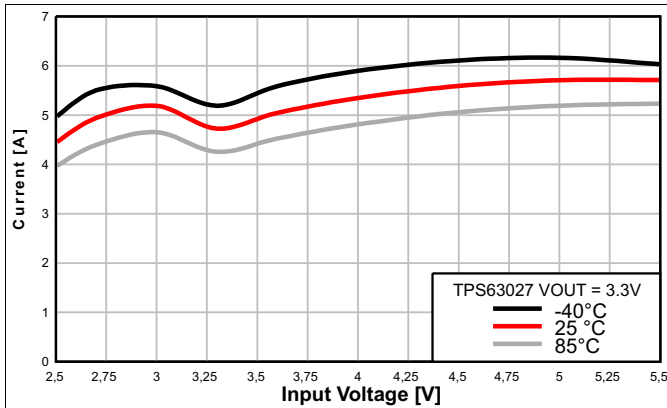

Figure 6. Average Input Current vs Input Voltage
Given the curves provided in Figure 6, it is possible to calculate the output current reached in boost mode, using Equation 1 and Equation 2 and in buck mode using Equation 3 and Equation 4.
- $I_{\text{IN}}$  = Minimum average input current (Figure 6)
- (4)